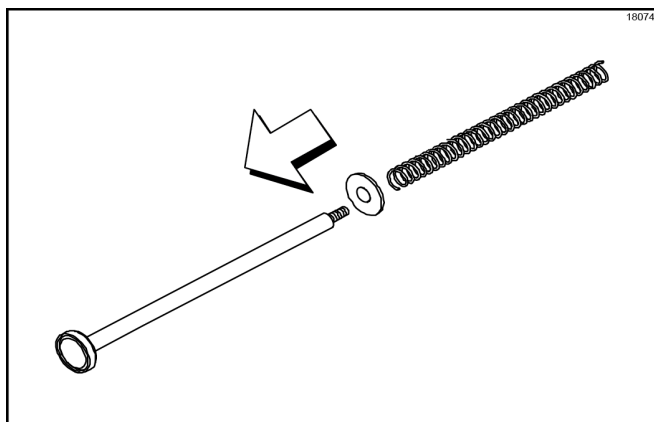

Figure-88
3. Install the washer and spring onto the plunger assembly. (See Figure-88.)